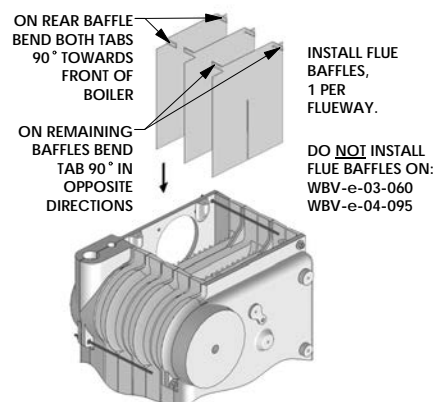

Figure 2.1: Flue Baffle Installation
2. Knock-down Boilers - Flue baffles are located in the jacket cartons. Bend baffle tabs as shown in Figure 2.1 and suspend baffles from top of flueways. Install one baffle per flueway. Do not install flue baffles if converting to WBV-e-03-060 or WBV-e-04-095 rates.